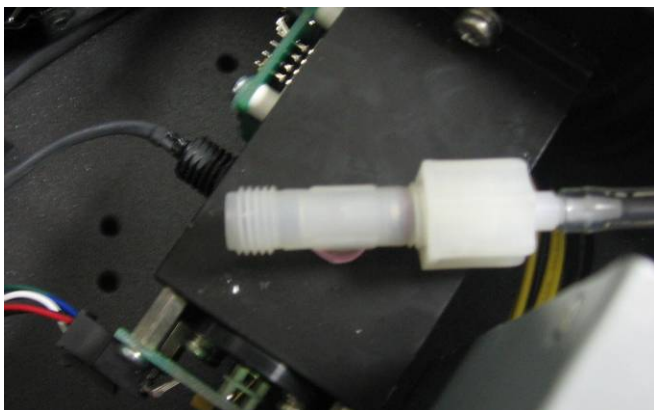

Figure 59 – Reaction Cell T-Piece
3. Disconnect the tubing from the T-piece on top of the reaction cell (refer to Figure 59).